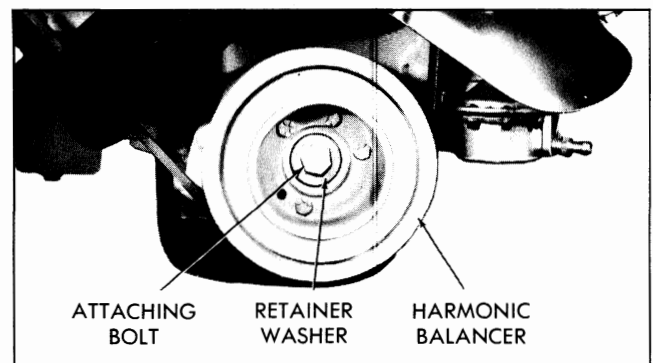

Fig. 6-44 Harmonic Balancer
2. Position fan so wide angles will be at top and bottom allowing access to balancer (Fig. 6-44).
3. Align timing marks to simplify proper positioning of sprockets during reassembly (Fig. 6-44).